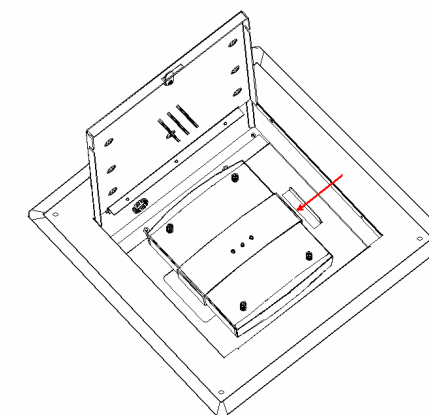

Figure 4 - Lock AP in Place
Step 4 – After the AP is set in the enclosure, lock it in place by sliding the enclosure's locking plate toward the AP until you feel it "click" (the locking plate will slide approximately 1/2"). Pull up on the AP to verify that it is properly latched. If you feel the AP lift from the enclosure, open the locking plate and adjust the AP so that all four feet fall into the key slots, then slide the locking plate back into position (reference Figure 4).
Position the enclosure so that the mounting holes are centrally located with the studs (Reference Figure 4).